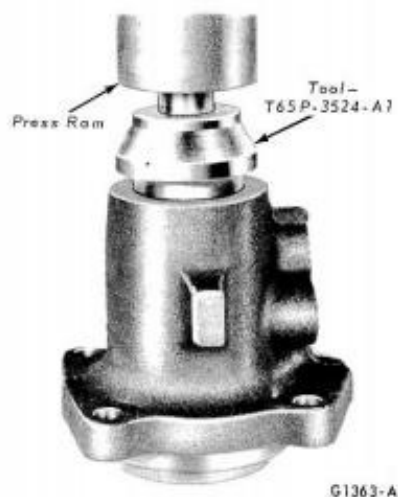

FIG. 17—Installing Valve Housing Bearing
8. Position the bearing in the valve housing. Seat the bearing in the valve housing with the tool shown in Fig. 17. Make sure that the bearing is free to rotate.